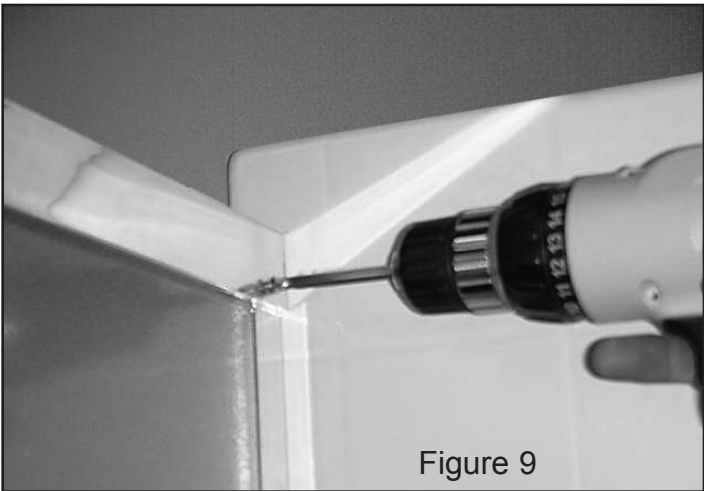

Figure 9
B. Drill assembly holes with a 7/64" Drill Bit into the Header (#1) through the Slip Jamb Male (#5) and Wall Jamb (#6). Secure at the top, on both sides using #6 x 1/4" "B"-Point Screws (#20) (See Figure 9).